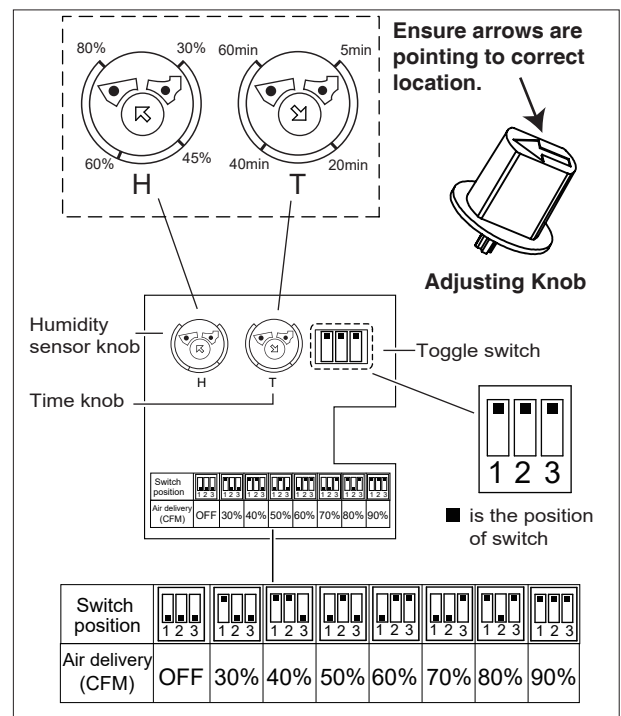

Fig 3
- There are three toggles on the toggle switch. Adjust the toggles as shown in fig 3 to set the CFM of the air suction when the maximum speed time of the fan is up. If the toggles are moved to the " OFF " setting, the fan will stop working after the maximum speed time is up. The toggle switch is pre-set to 90% CFM.
When installing Humidity and Time knobs, make sure the arrows are pointing to the correct location as picture shows in Fig 3.